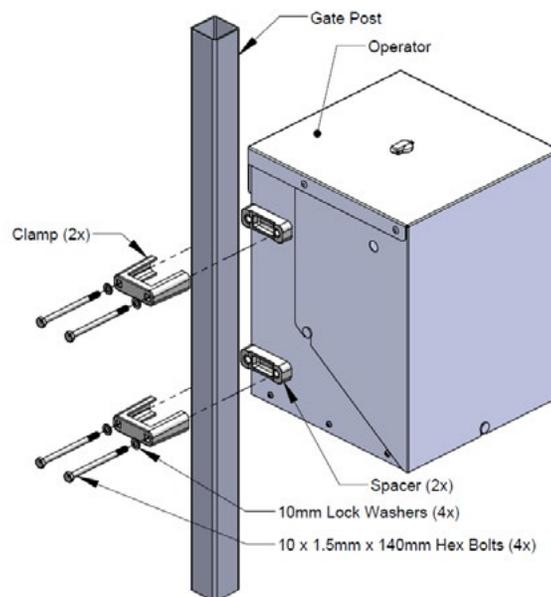

Figure 3. Mounting Operator on Gate Post
4. Insert and tighten the 4 – 10x1.5 x 140mm hex bolts to secure the operator to the gate post. See Figure 3.